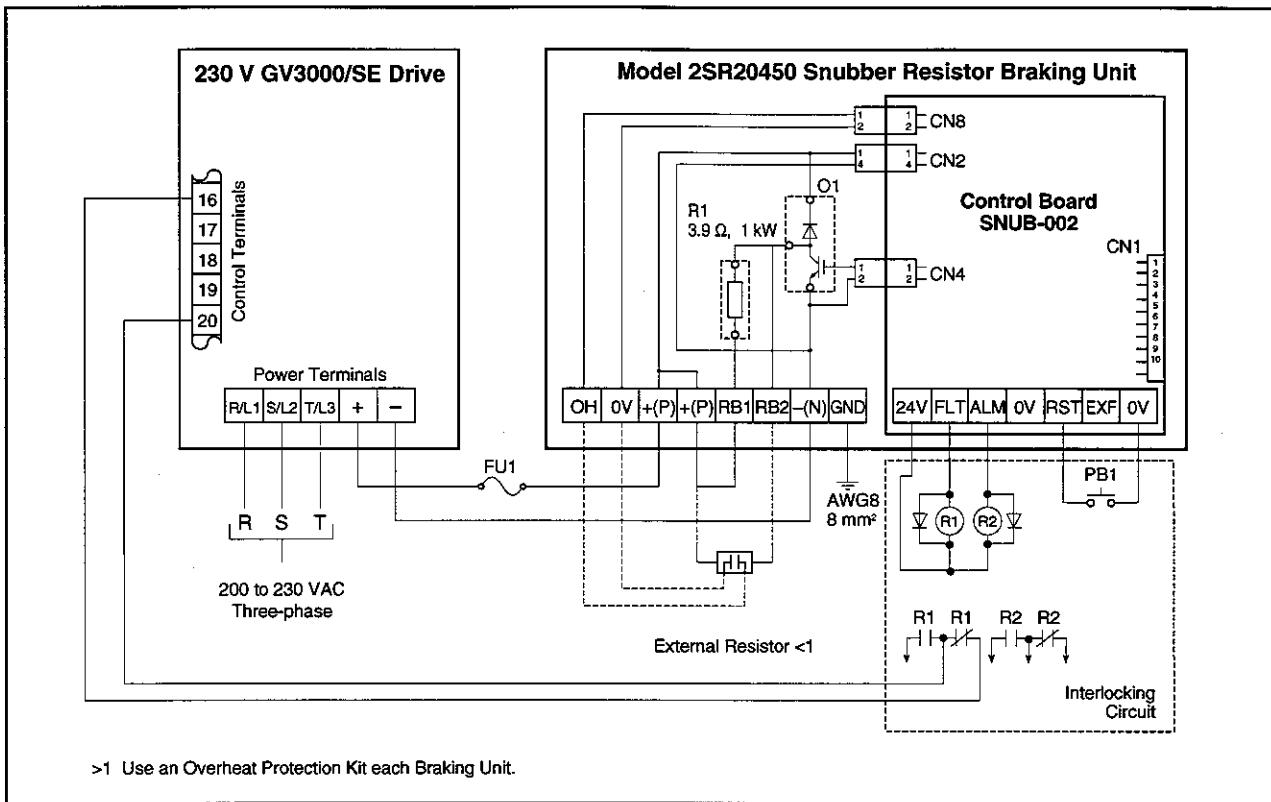
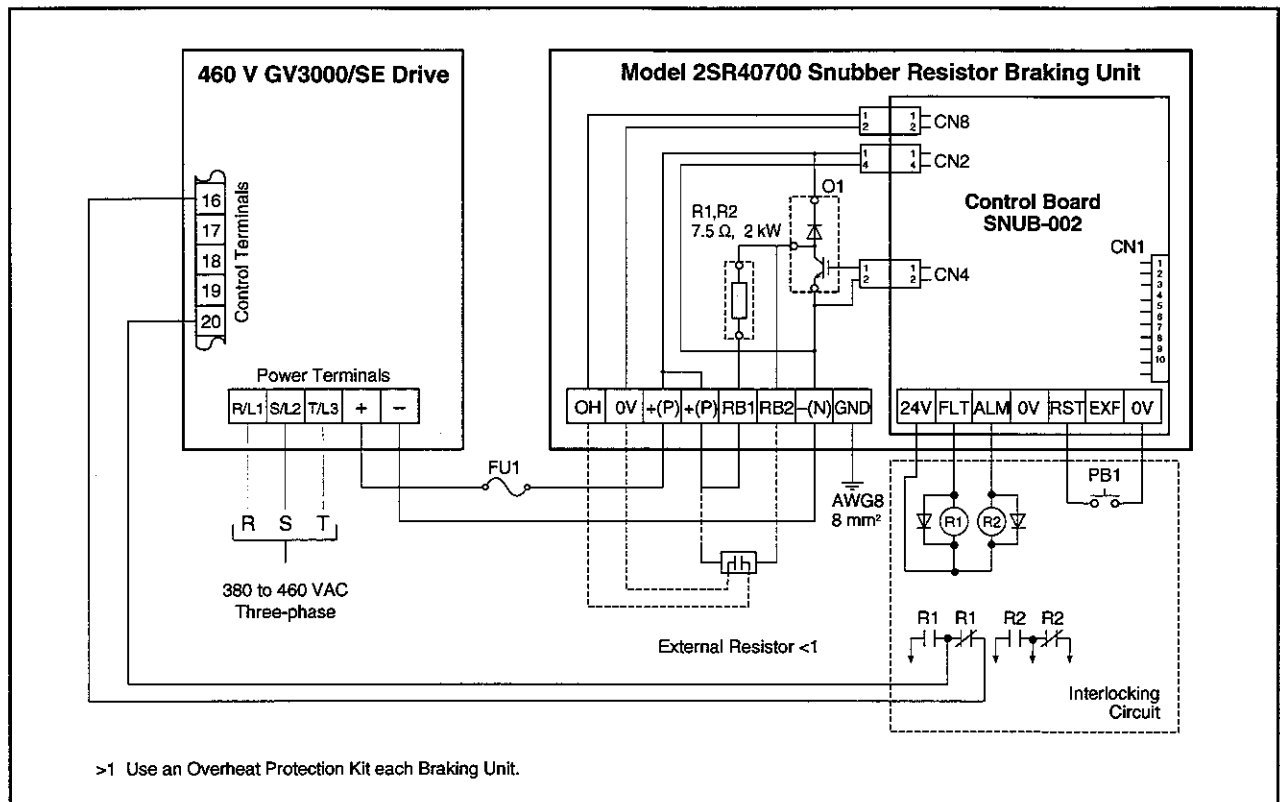

Figure 5 - Wiring Diagram for 230 V GV3000/SE Drives (Connecting One Braking Unit)
Figure 7 - Wiring Diagram for 460 V GV3000/SE Drive (Connecting One Braking Unit)
To install the selected external resistor, first remove the jumper between terminals +(P) and RB1. Install the external resistor between terminals +(P) and RB2. See figure 5, 6, 7 or 8. Refer to table 3 and 4 for a description of the terminal strip connections. Note that the internal resistor is not used if the external resistor option is selected.
When only one Braking Unit is installed, install wiring between the drive and the Braking Unit according to figure 5 for 230 V GV3000/SE drives or figure 7 for 460 V GV3000/SE drives.